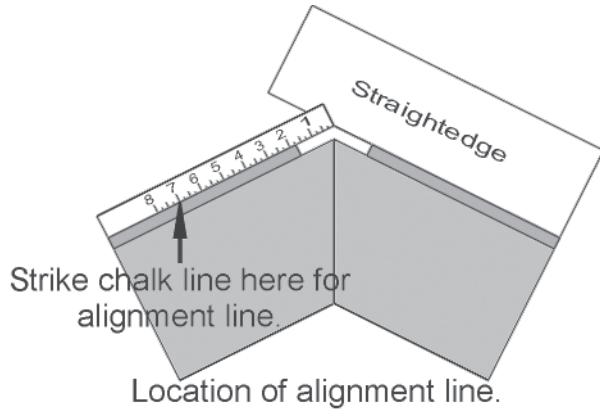

Figure 4
STEP 3 - It is very important that the OmniRoll® ridge vent be aligned correctly and evenly down the roof's ridge. Snap a chalk line down both sides of the ridge at a distance of 7" down from the peak as shown in Figure 4. The chalk lines should be used to help keep the OmniRoll® centered over the peak of the roof during installation.